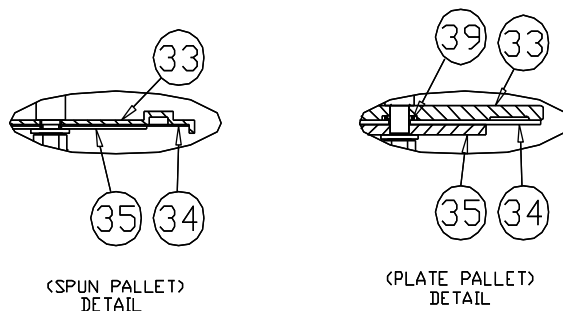

Figure 2 - Pallet Assembly Detail
4. Carefully inspect all guides for corrosion, damage or product build up. Also inspect the guide hole in the vacuum cover. Check the metal seating surfaces for pitting or build up. It is recommended to replace all soft goods including diaphragm, O-Ring (for machined pallets, Figure 2) and cover gasket.
= See Figure 2 Item 39